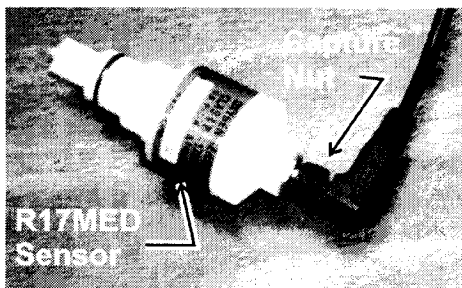

Figure 2-1: Installing the R17MED Sensor
2. Plug one end of the coiled cable into the jack receptacle on the back end of the R17MED sensor and secure in place with the capture nut located at the base of the connector. See Figure 2-1.